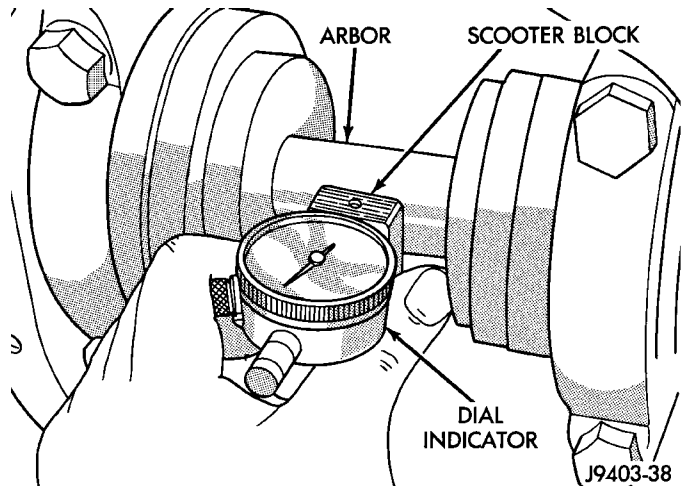

Fig. 72 Pinion Gear Depth Measurement—Typical
(5) Assemble Dial Indicator C-3339 into Scooter Block D-115-2 and secure set screw.
(6) Place Scooter Block/Dial Indicator in position in axle housing so dial probe and scooter block are flush against the surface of the pinion height block. Hold scooter block in place and zero the dial indicator face to the pointer. Tighten dial indicator face lock screw.
(7) With scooter block still in position against the pinion height block, slowly slide the dial indicator probe over the edge of the pinion height block. Observe how many revolutions counterclockwise the dial pointer travels (approximately 0.125 in.) to the out-stop of the dial indicator.
(8) Slide the dial indicator probe across the gap between the pinion height block and the arbor bar with the scooter block against the pinion height block (Fig. 72). When the dial probe contacts the arbor bar, the dial pointer will turn clockwise. Bring dial pointer back to zero against the arbor bar, do not turn dial face. Continue moving the dial probe to the crest of the arbor bar and record the highest reading. If the dial indicator can not achieve the zero reading, the rear bearing cup or the pinion depth gauge set is not installed correctly.